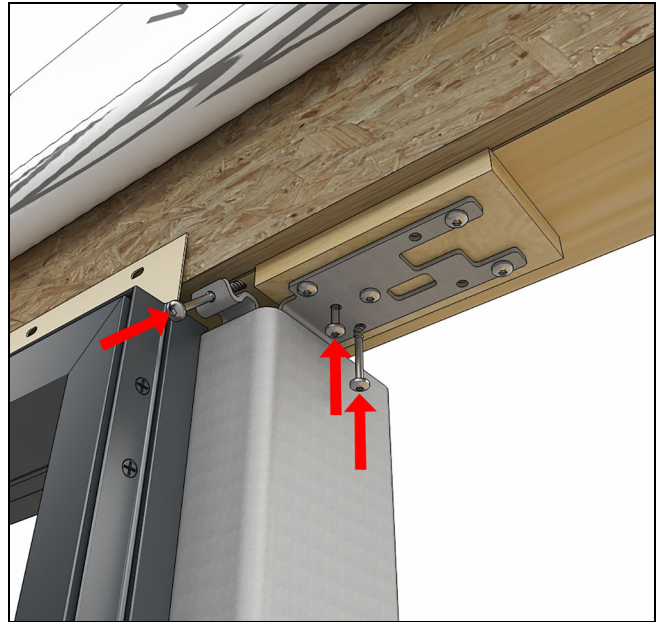

Figure 228
10. Fasten the top bracket to the RO with the #10 x 3" T20 Torx pan head screws provided. See Figure 228.